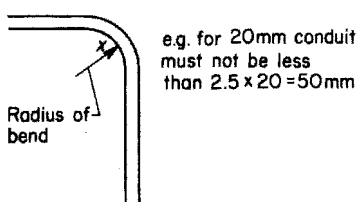

Fig. 14.28
- 3 The number of cables drawn into a conduit may be achieved by selecting the size of conduit using the tables shown in the guidance notes to the Regulations. The system used applies to trunking as well as conduit. The IEE On-site Guide gives various tables to enable the designer to establish the number of conductors that may be run in conduit or trunking, taking into consideration space factor and the ease of drawing cable in. This system of tables is based on the requirement that, in a conduit run, there should be 40% of cable and 60% of air. In trunking the cable should only occupy 45% of the available space. So, for example, if 8 2.5 sq. mm stranded conductors were to be installed in a short straight length of conduit, the factor for the cable (43) would be multiplied by the number of conductors (8) to give an overall cable factor of  $43 \times 8 = 344$ . This overall factor is now used to find a suitable conduit size by comparing it with the conduit factors and selecting a size. In this instance the nearest conduit factor given is (460), giving a conduit size of 20 mm. This method is used for longer lengths with bends but a different set of tables and factors are used. The same process is also used for trunking capacity.
- 4 When conduit is bent, the radius of any bend must not be less than 2.5 times the outside diameter of the conduit (Fig. 14.28).